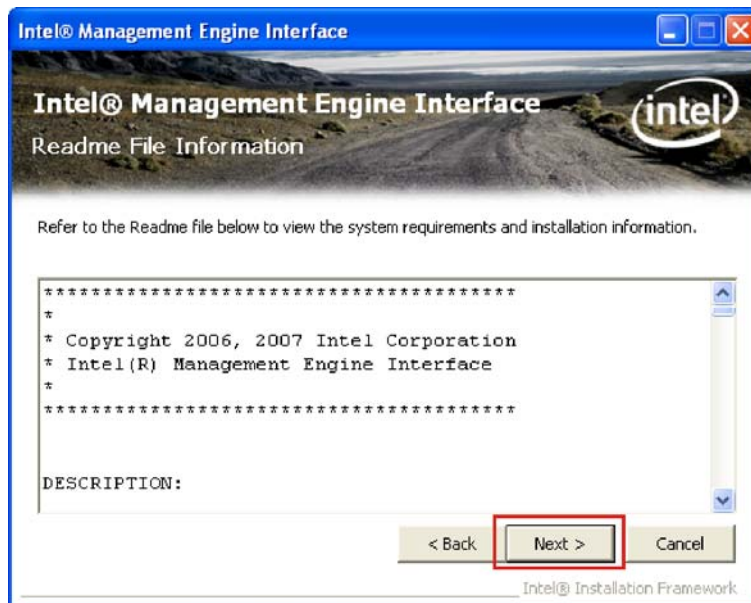

Figure 7-41: IAMT Readme File
Step 7: The IAMT Readme file appears (**Figure 7-41**).